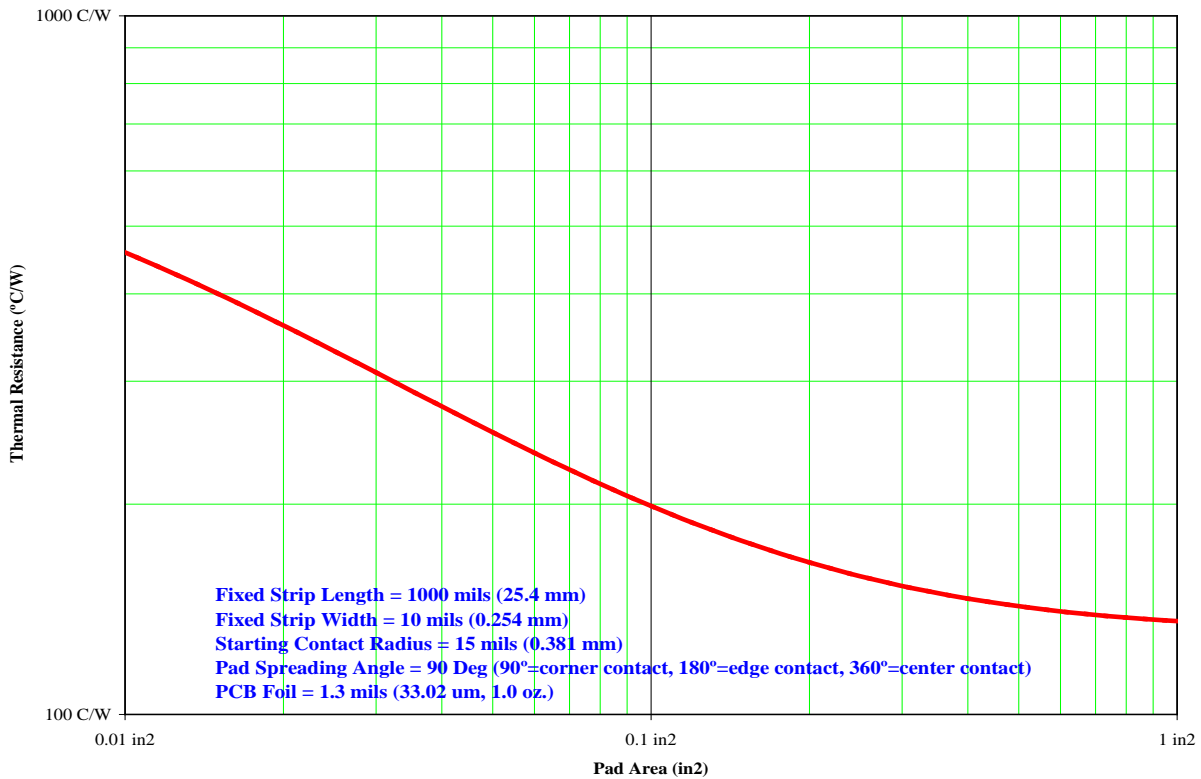

FIGURE 2
1. With 0.025 inch² pads (see Figure 2).
Power Derating Curve $R_{\theta JSP(IS)}$ (see Figure 2 for alternate PCB mounting)